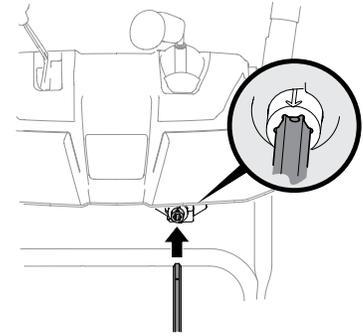

Figure 2-24
6. Insert chute control rod into pinion gear below joystick. Make sure to line up hole in rod with arrow on pinion gear. See Figure 2-24.